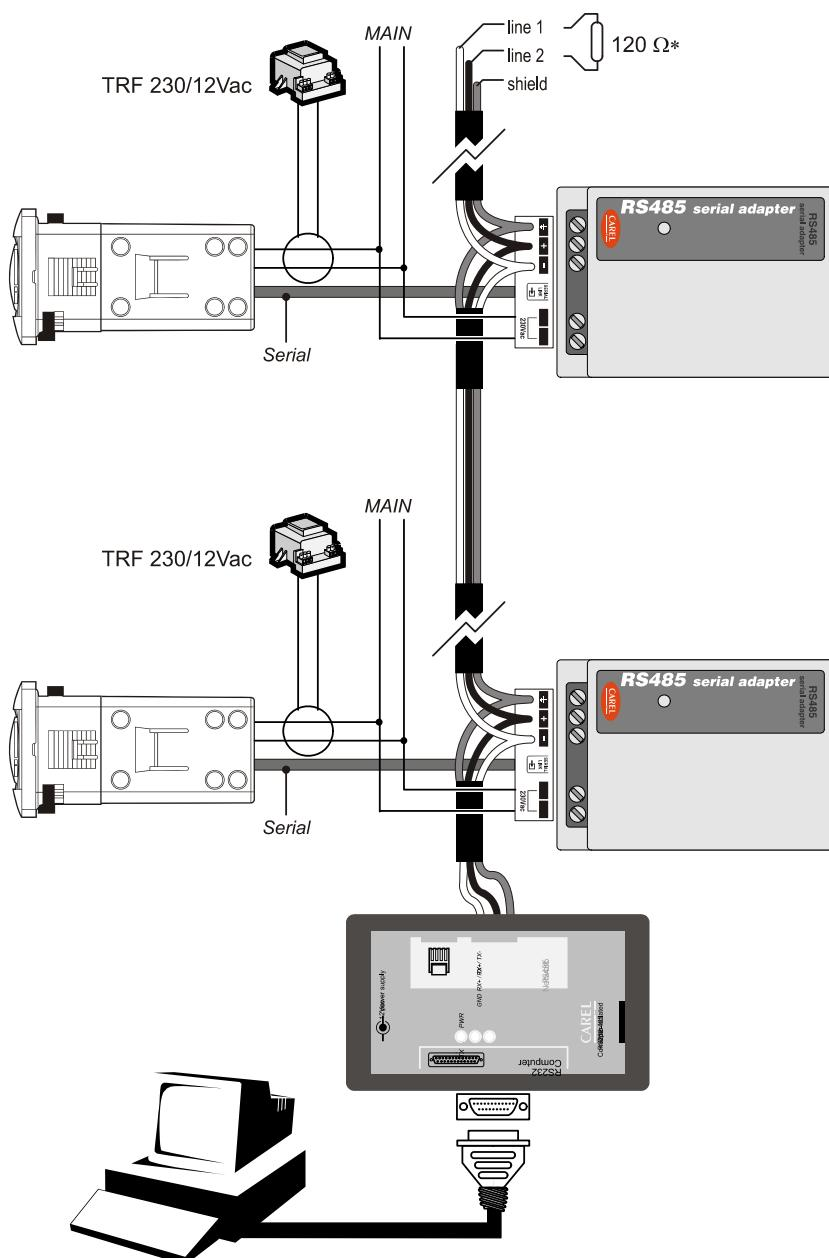

Fig. 8.2.1
- 230Vac mains power connections to terminals 1 and 2, as in Figure 8.2.1 (indicated by **230Vac** on the module);
- RS485 serial connection on terminals 3, 4, 5 as in Figure 8.2.1 (indicated by **-**, **+** and **=** on the module).